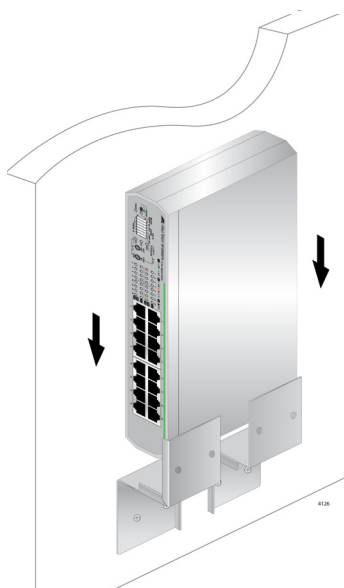

Figure 16. Placing the Switch into the Brackets
8. Slide the switch into the brackets on the wall as shown in Figure 16.